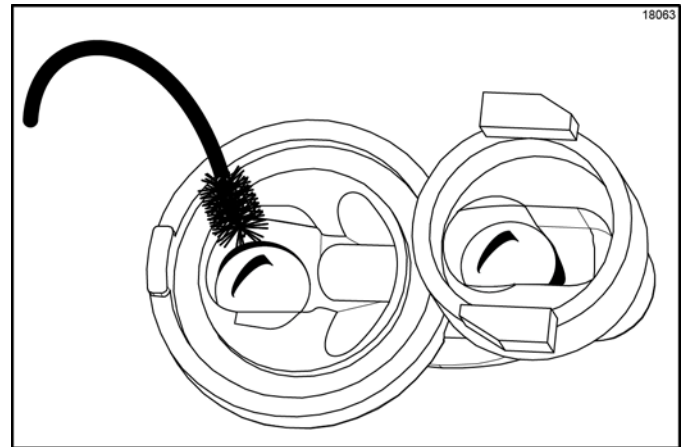

Figure 6-102
4. Insert the black shielded brush into the top side of the inlet valve. Scrub this area, specifically around the steel ball. (See Figure 6-102.)